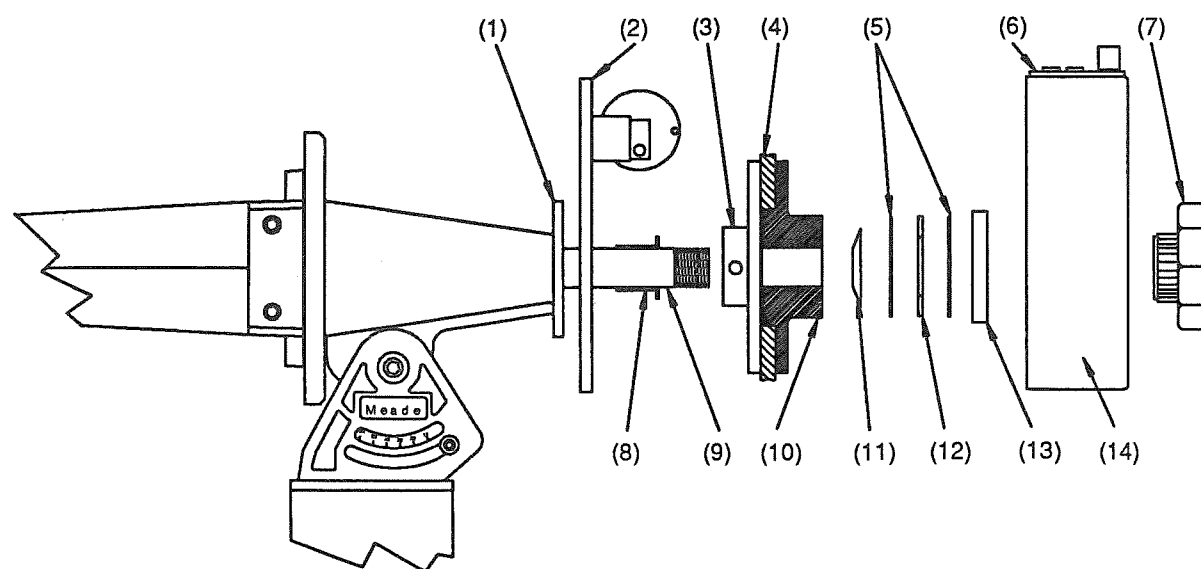

Fig. 9
1. Unthread and remove the R.A. lock knob (#7, Fig. 9) and slide the R.A. drive spacer (the black metal tube behind the R.A. lock knob) off the polar shaft.
2. Remove the rear nyliner (#8, Fig. 9).
3. Attach the back plate (#2, Fig. 9) to the lower end of the polar housing using the three 10-24 socket cap screws and #10 flat washers supplied. The back plate is shipped with the motor and worm block assembly attached, and these should be removed. Firmly tighten the attachment screws.
5. Position the Clutch system onto the polar shaft. (The Clutch system consists of three parts: the clutch hub (#3, Fig. 9), the Worm gear (#4, Fig. 9), and the Pressure plate (#10, Fig. 9).) This part is machined to very close tolerances and should be a tight fit. Because of size variations in the polar shaft diameter, it may require a bit of pressure to get the clutch system to slide on the polar shaft. If the clutch system is too tight to slide, fine sandpaper may be used to sand the inside of the clutch hub. Remove just enough material so that the clutch system will slide on.
9. Remove the four screws holding the Power panel (#7, Fig. 9) to the Clock cover (#7, Fig. 9). Let the power panel hang from the wires.
13. Slide the spring washer (#11, Fig. 9) onto the polar shaft with the larger side toward the pressure plate.
14. Slide the Bearing races (#5, Fig. 9), Thrust bearing (#12, Fig. 9), and Bearing housing (#13, Fig. 9) onto the polar shaft.